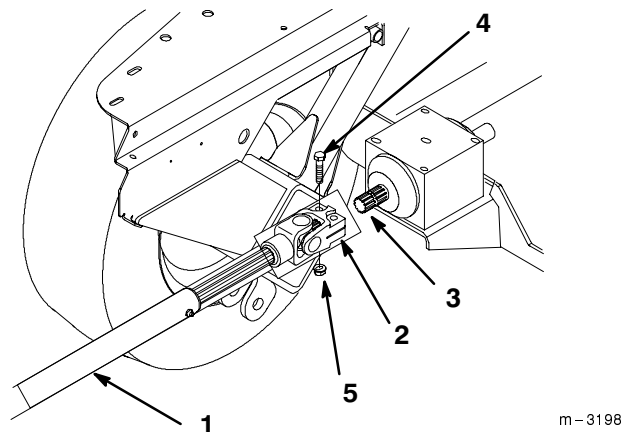

Figure 30
1. Slide the driveshaft on gearbox shaft. Install (2) 3/8"-16 x 1-5/8" (41.5 mm) bolts and 3/8"-16 locknuts in universal joint (Fig. 30).